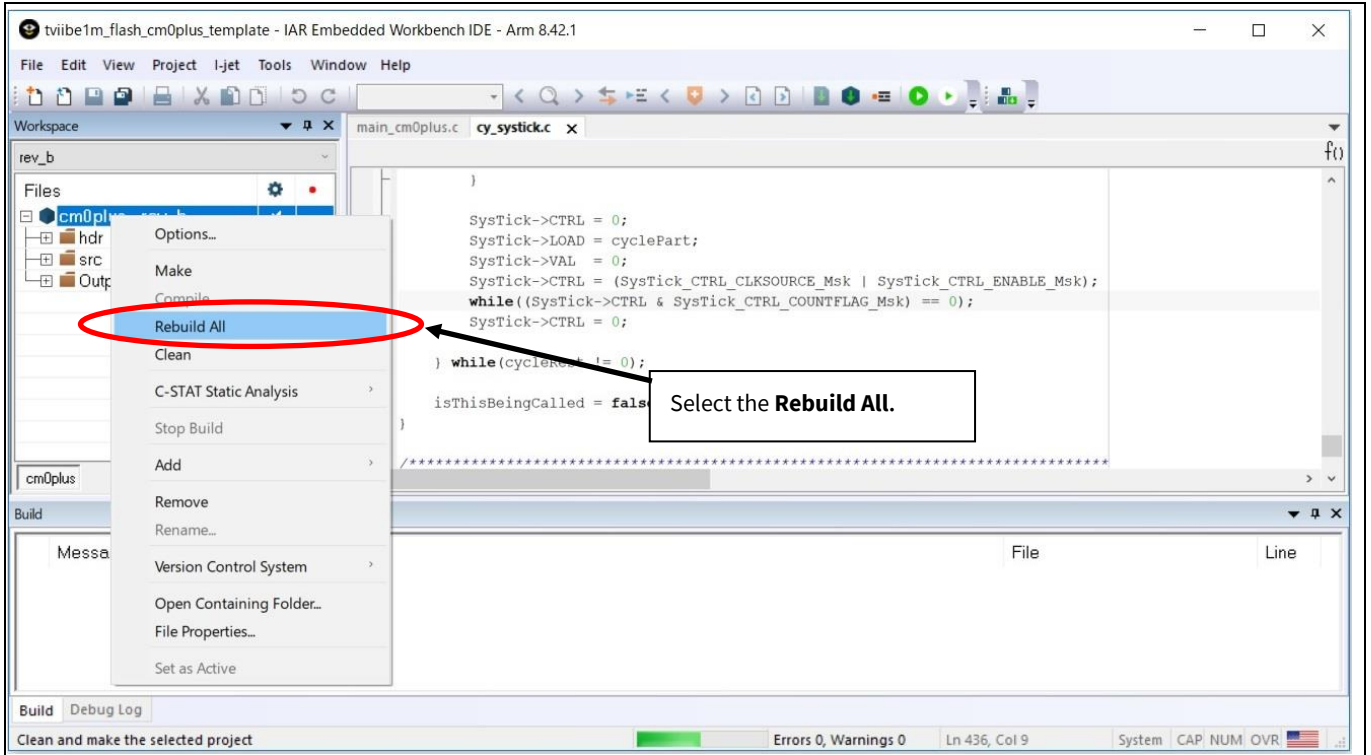
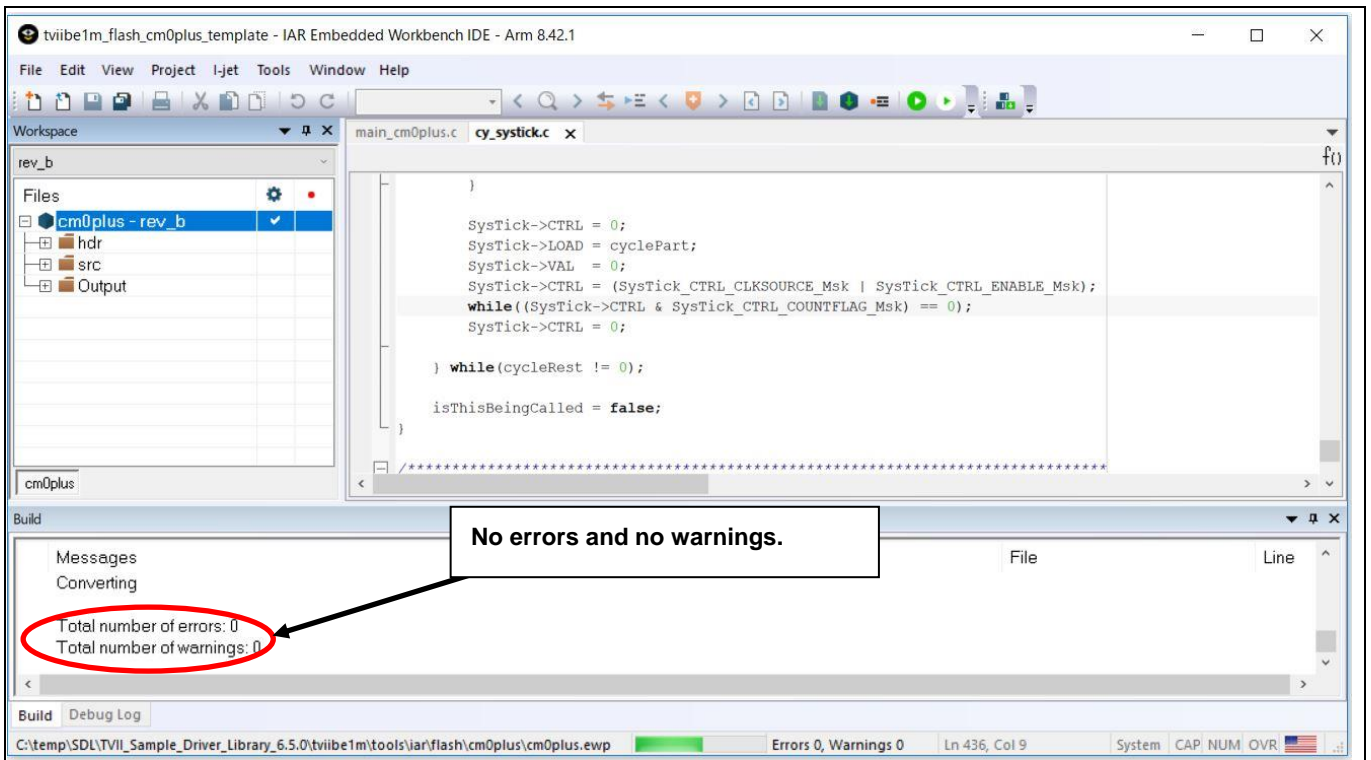

Figure 26 Rebuild the Project of SDL Project
Figure 27 Rebuild Successful of the Project of SDL Project
- For the build, select *cm0plus.eww* on the workspace and right-click and select **Rebuild All** as shown in **Figure 26**. The Rebuild All process starts, and no errors and no warnings messages appear as shown in **Figure 27**.